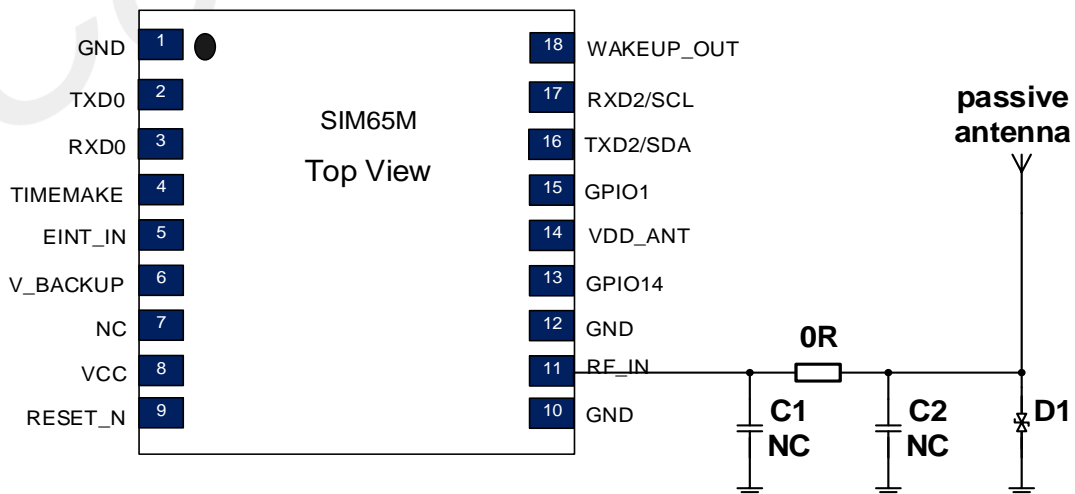
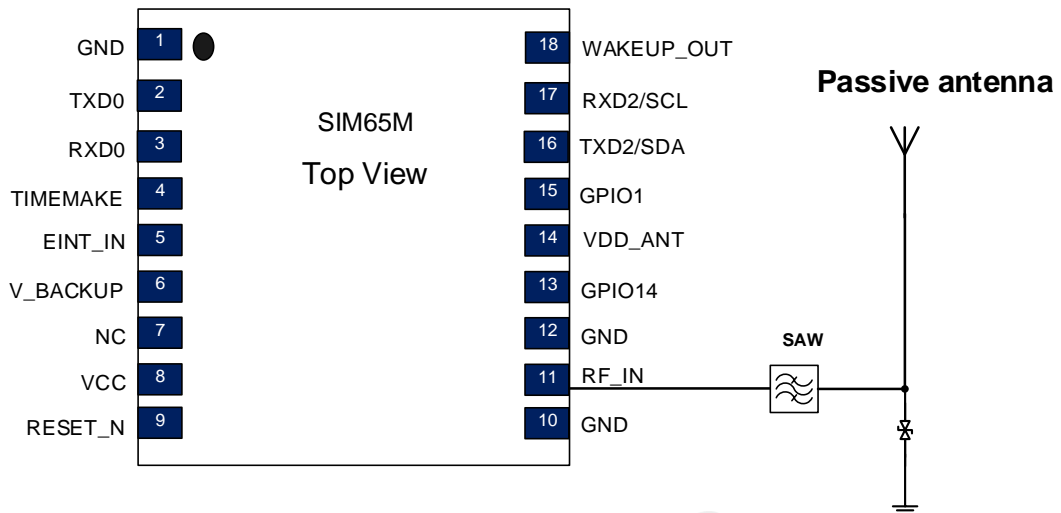

Figure 12: SIM65M-C passive antenna design
Figure 14: SIM65M-C passive antenna design(pre-saw)
Figure 12 shows a minimal setup for a GPS/GLONASS/BEIDOU receiver with SIM65M-C module.
For best performance, user can add an external saw based on Figure 12 design to avoid interference, please see Figure 14.
- Refer to Figure 14, the additional use of surface acoustic wave filters (SAWs) can effectively suppress out-of-band interference and improve the signal-to-noise ratio.